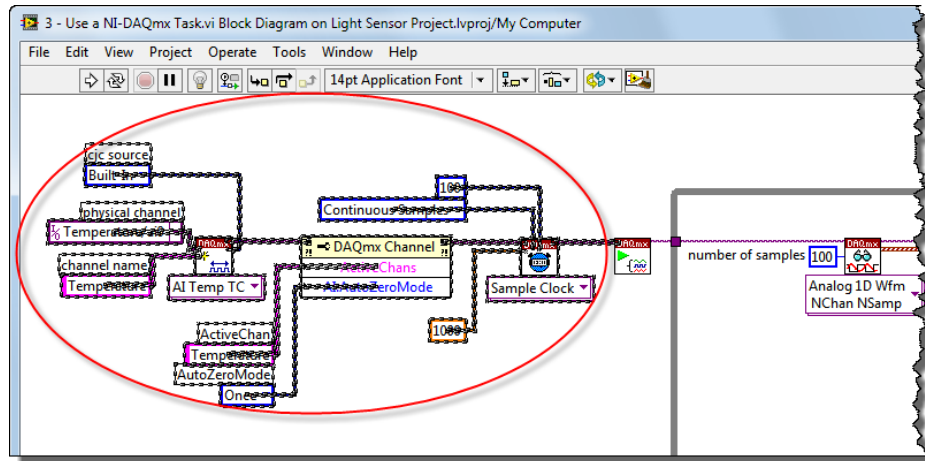

Figure 13. Delete all configuration VIs and input parameters to the left of the DAQmx Start Task.vi.
- a. In the **3 – Use a NI-DAQmx Task.vi** within LabVIEW, click-and-drag to highlight all VIs and input parameters to the left of the *DAQmx Start Task.vi* as shown in Figure 13.